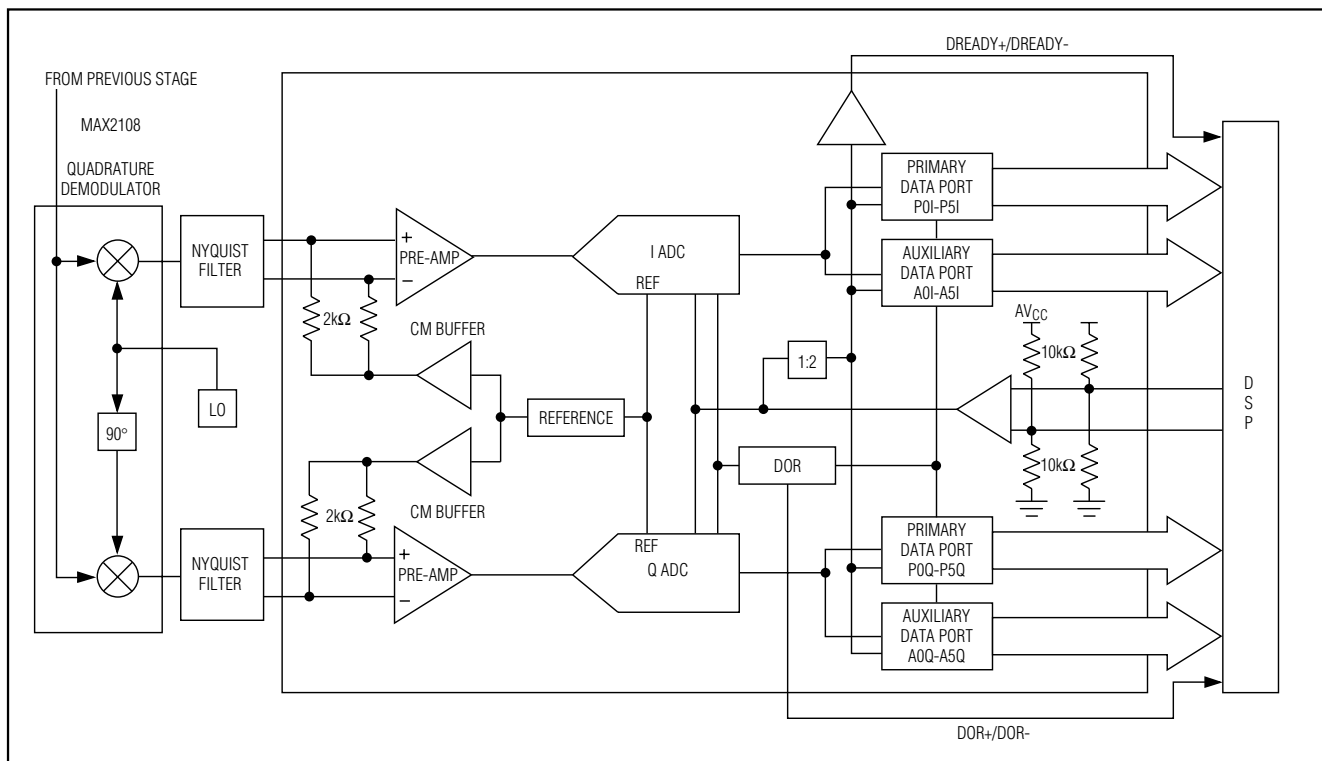

Figure 8. Typical I/Q Application
Quadrature amplitude modulation (QAM) is frequently used in digital communication systems to increase channel capacity. A QAM signal is modulated in both amplitude and phase. With a demodulator, this QAM signal gets downconverted and separated in its in-phase (I) and quadrature (Q) components. Both I&Q channels are digitized by an ADC at the baseband level in order to recover the transmitted information. Figure 8 shows a typical application circuit to directly tune L-band signals to baseband, incorporating a direct conversion tuner (MAX2108) and the MAX105 to digitize I&Q channels with excellent phase- and gain-matching. A front-end L-C filter is required for anti-aliasing purposes.